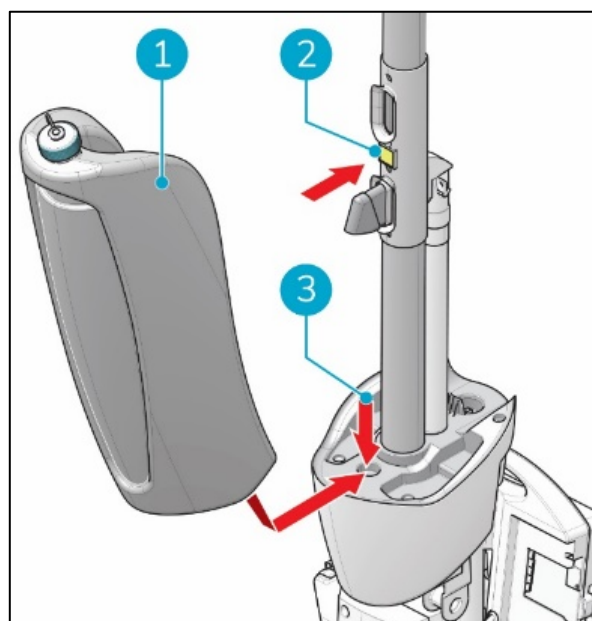

Figure 11
1. Put the bottom of the recovery tank (Figure 11, pos 1 and pos 3) on the front of the i-mop® XXL pro.
2. Push the top of the tank into place until you hear a "click" sound, the magnet (Figure 11, pos 2) will lock the recovery tank into place.